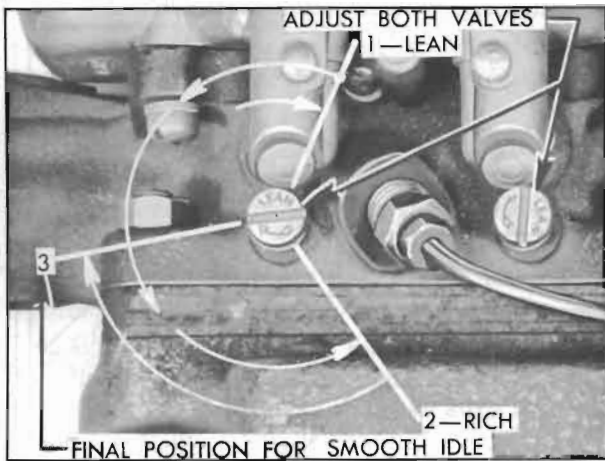

Figure 3-10—Adjustment of Idle Needle Valves
2. With engine at normal operating temperature and idling at 485 RPM (550 RPM on air conditioned cars) in neutral or park, adjust one needle valve at a time (fig. 3-10) to provide smooth idle, as follows: